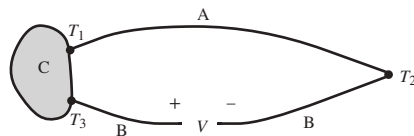

Figure 9.37 Law of intermediate junction metals.
3. *Law of intermediate junction metals.* As illustrated in Figure 9.37, if a third metal is introduced within a junction creating two new junctions (A-C and C-B), the measured voltage will not be affected as long as the two new junctions are at the same temperature ($T_1 = T_3$). Therefore, although soldered or brazed joints introduce thermojunctions, they have no resulting effect on the measured voltage. If $T_1 \neq T_3$, the effective temperature at C is the average of the two temperatures $((T_1 + T_3)/2)$.